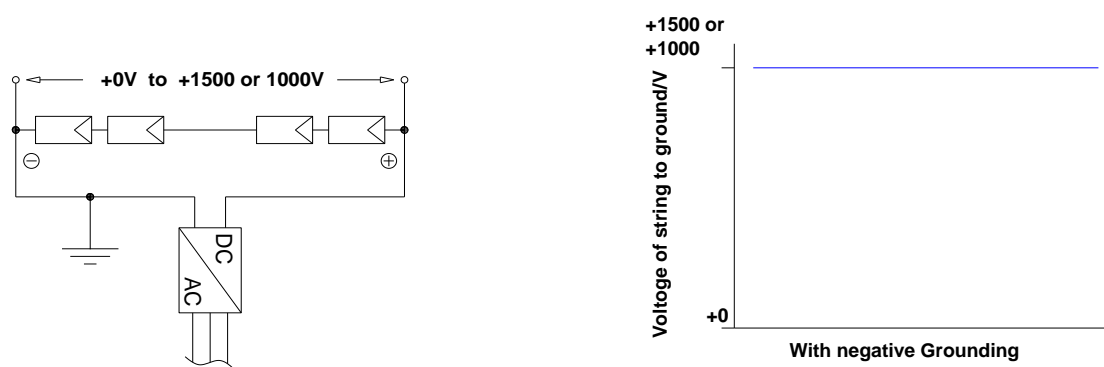

FIG 6 Schematic diagram for grounding potential of the inverter
7.5.6 If the module is used in high-temperature and high-humidity environment, GM solar suggest the customer configure the inverter which allows negative grounding and contains isolation transformer (as shown in FIG6).